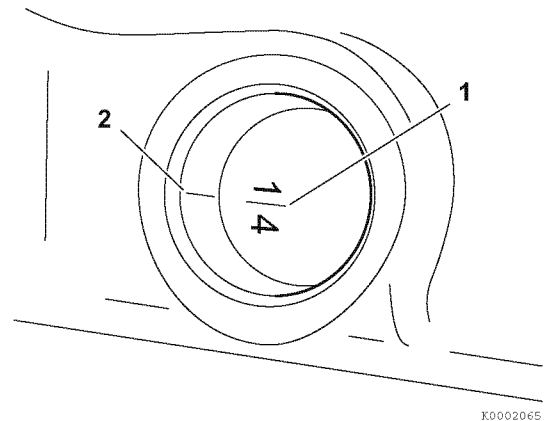

Figure 7-39
8. Highlight the timing reference mark (**Figure 7-39, (2)**) on the flywheel housing or engine back plate (**Figure 7-40, (2)**). Highlight the TDC (Top Dead Center) mark (**Figure 7-39, (1)**) on the flywheel.